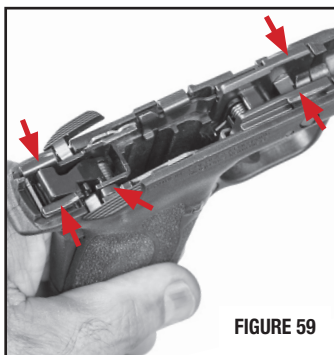

FIGURE 59
- There are several lubrication points (FIGURES 59 and 60) where a single drop of high-quality firearms lubricant should be applied. This will ensure proper lubrication. Care should be taken not to over-lubricate. Excess lubricant can collect large quantities of unburned powder and carbon residue, which could interfere with proper functioning of the pistol.